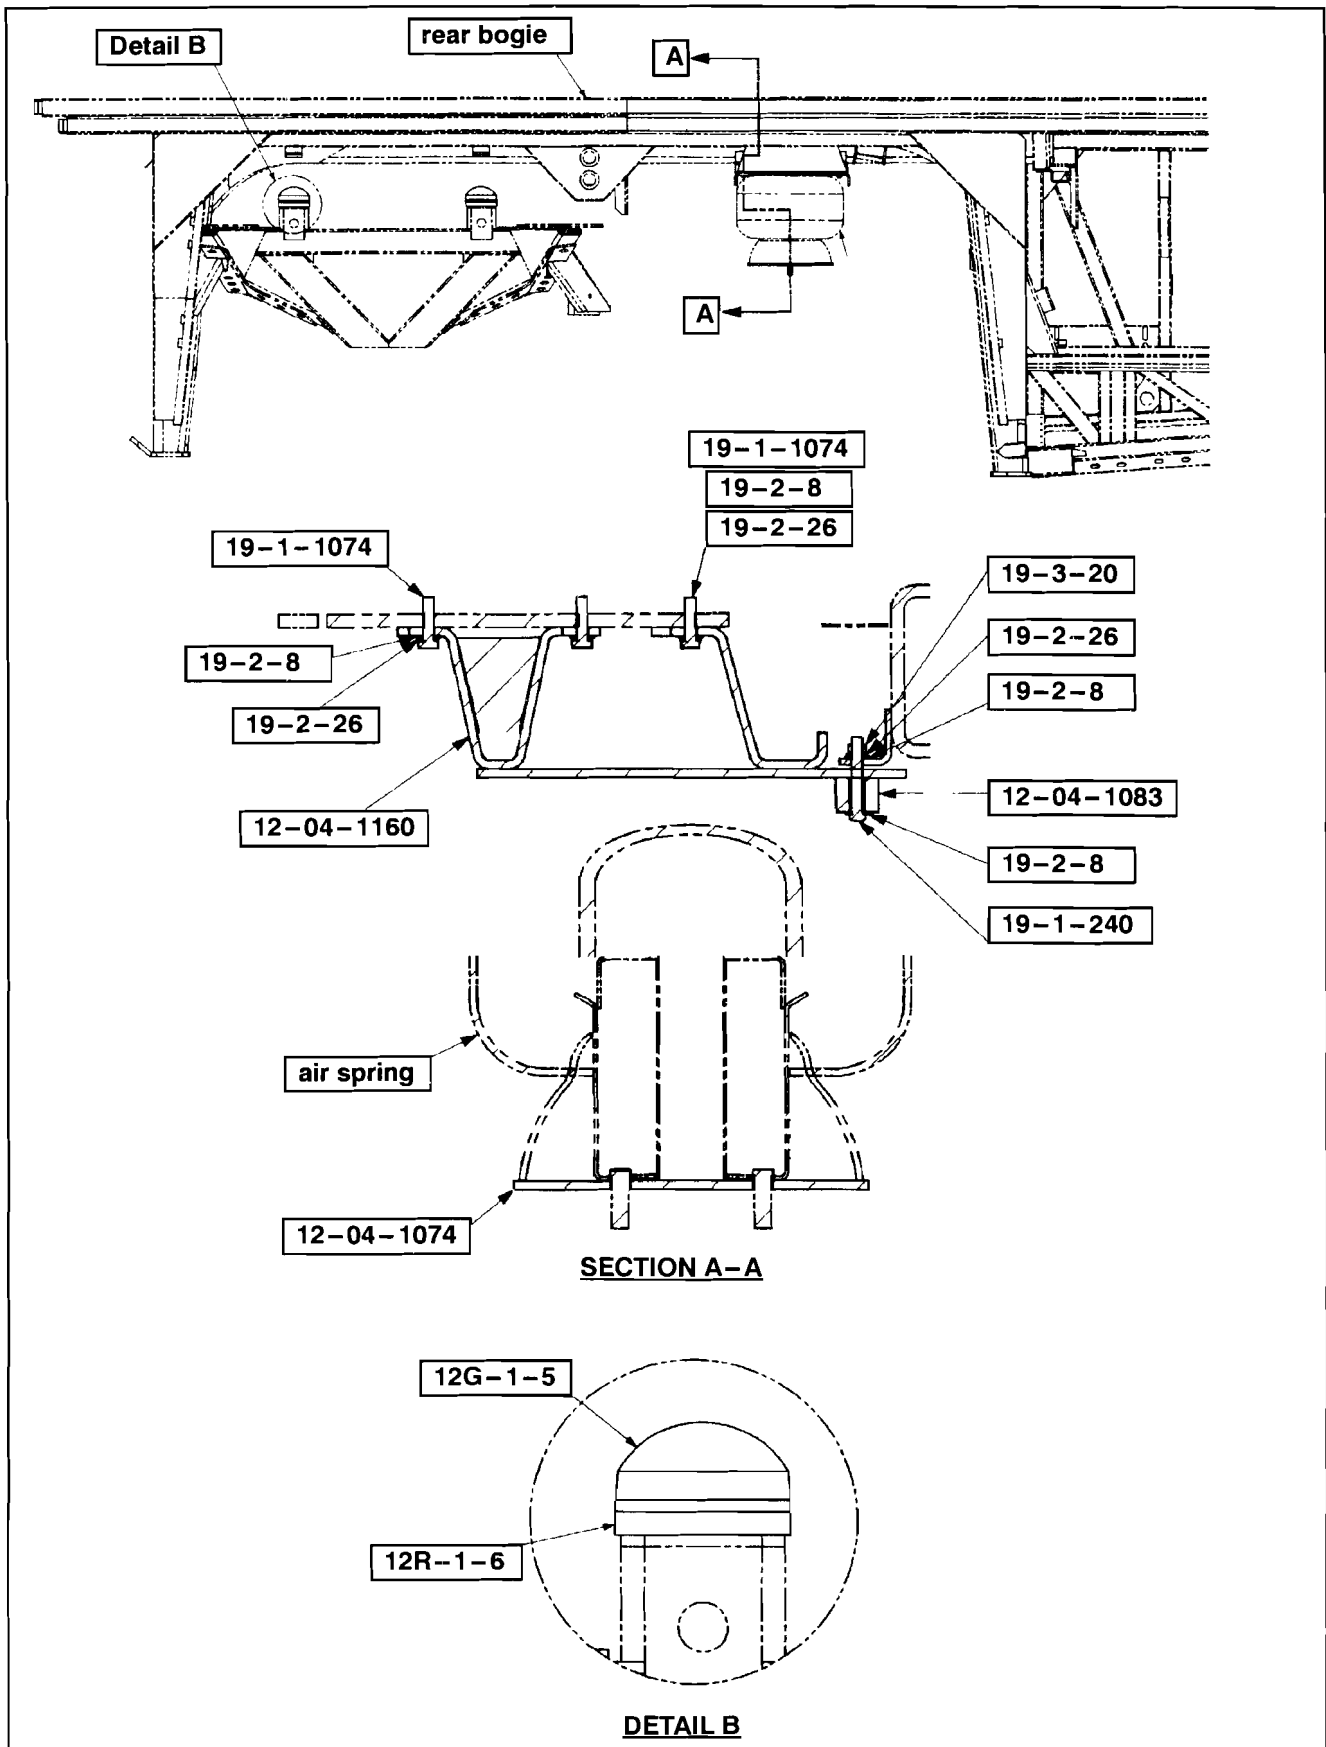

Figure 5.
14. Install the new rubber bumper ( p/n 12G-1-5 ) and bumper block spacer ( p/n 12G-1-6 ) ( Detail B / Figure 5 ).
16. Install the new plate assembly ( p/n 12-04-1160 ) and spacer ( p/n 12-04-1083 ) in the locations shown in Figure 5., using the new plate assembly mounting hardware provided in the Parts list. Torque nut ( p/n 19-3-314 ) to 18–22 ft.-lbs.
17. Align and position the spacer ( p/n 12-04-1074 ) in the location shown in Figure 5.